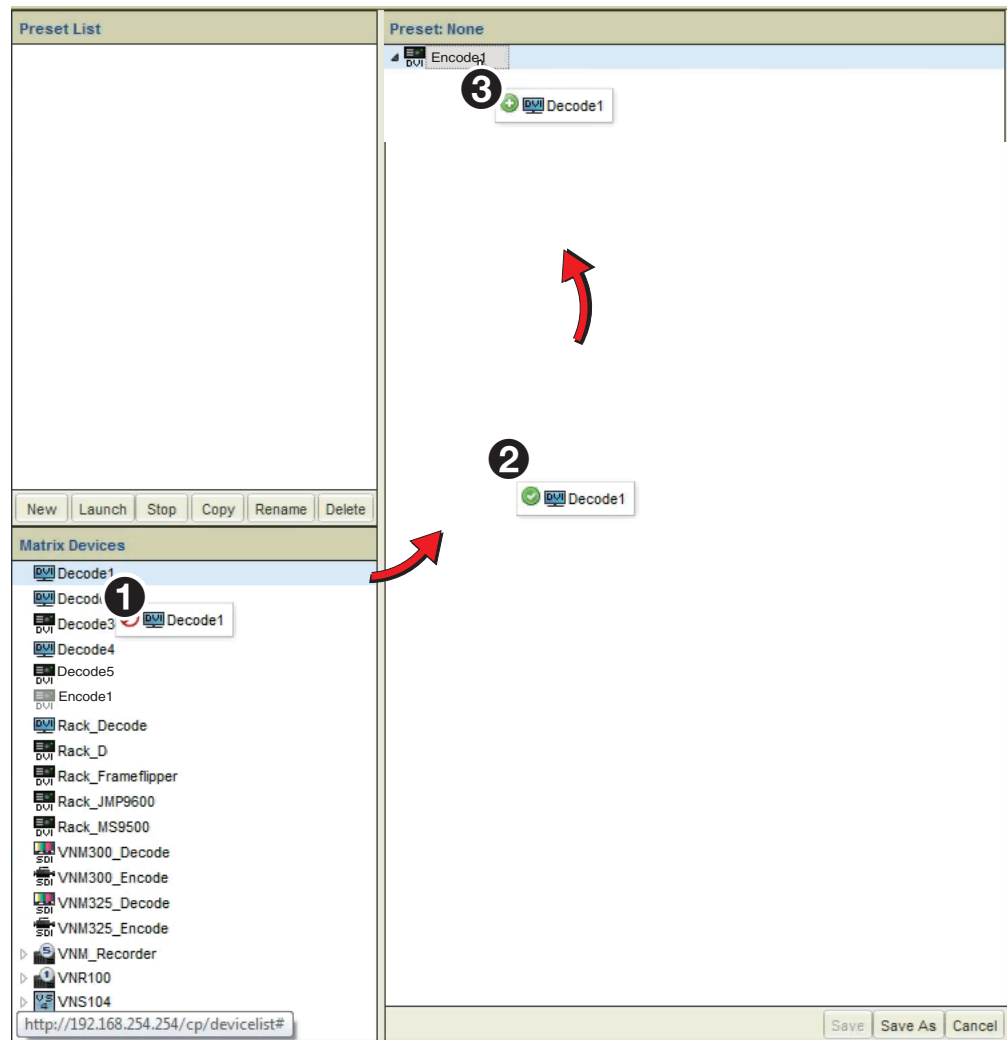

Figure 97. Preset Workspace, Add a Decoder
5. Add a decoder to the Preset panel. Click on and hold the desired decoder (see figure 97, ❶).